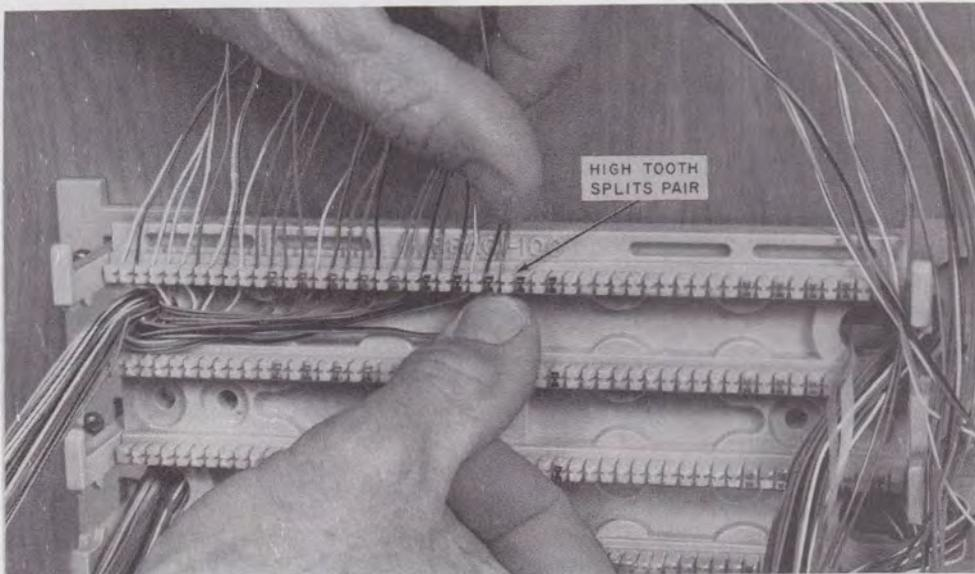

Fig. 14—Placing Conductors in Index Strip
3.11 The conductors of a 25-pair cable or a binder group are placed in the index strip slots following the even-count color code starting with white-blue in slot 1, blue-white in slot 2, white-orange in slot 3, etc (Fig. 14). The conductors should not be taut; some slack is desirable. The high tooth on the index strip splits the conductors of a pair. Light finger pressure is sufficient to cause the conductor to be held in the index strip. Place all 25 pairs and check for split pairs, missed slots, etc.